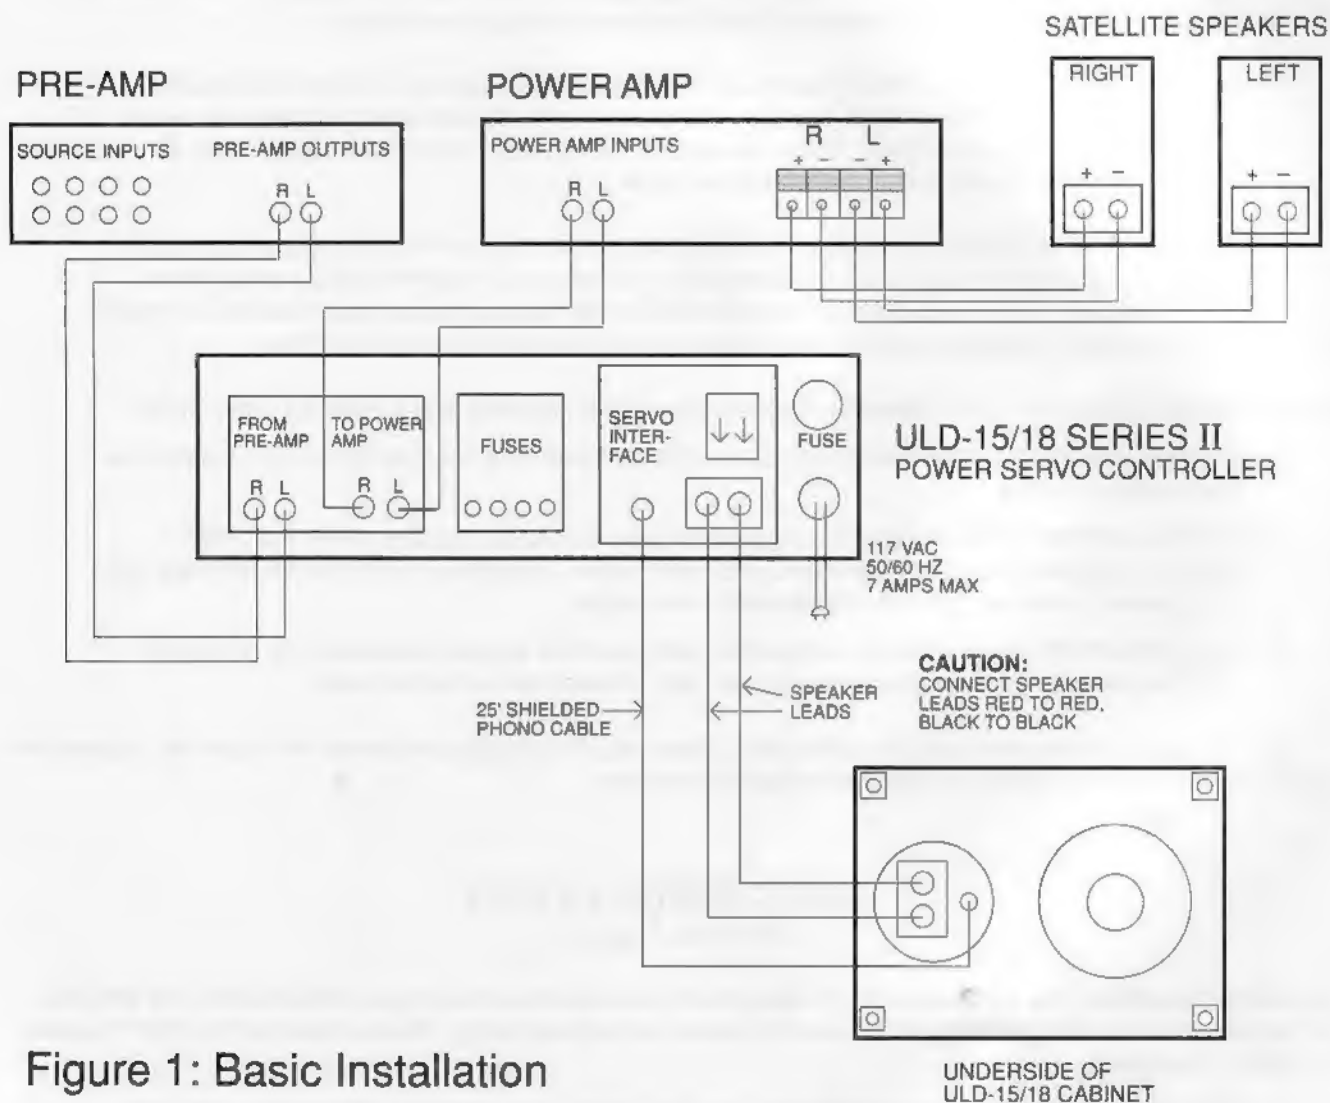

Figure 1: Basic Installation
(Refer to Figure 1)
**Dual Subwoofers in Mono Mode:** You may want to run a pair of ULD systems in monaural mode instead of stereo. Simply connect the one Subwoofer System (call this "System A") as shown in Figure 1, the basic installation. Then, using a Y-adaptor patch cord, tap the right and left signals between your pre-amp and System A. Feed these signals directly to the ULD controller of your second system ("System B"). Leave the TO POWER AMP outputs of System B unconnected. Please read the important note in the previous section concerning multiple-ULD system owners.